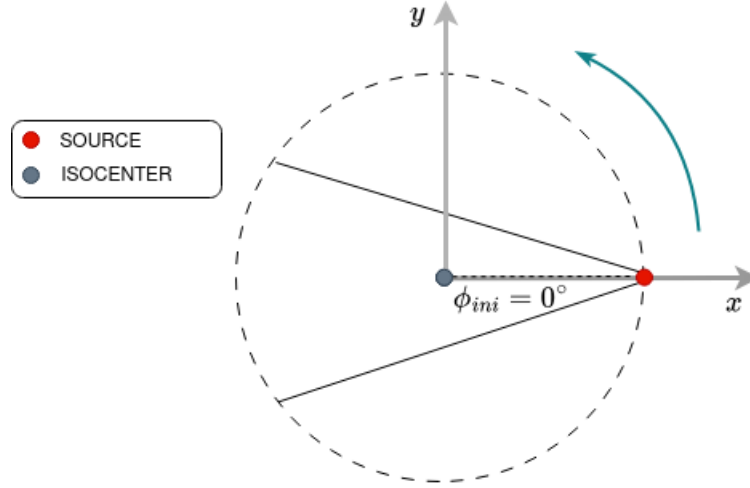

Figure 12: Schematic representation of the CT source emission
- **phi-init** and **phi-end** (in degrees): specify the initial and final angular position of the source. Note that **phi-init** = 0° corresponds to the source located on x-axis, with emission directed to the negative x-axis, as it is shown in Figure 12, and that **phi-end** must be \geq **phi-init**. Therefore, the source configuration must be configured following these requirements.